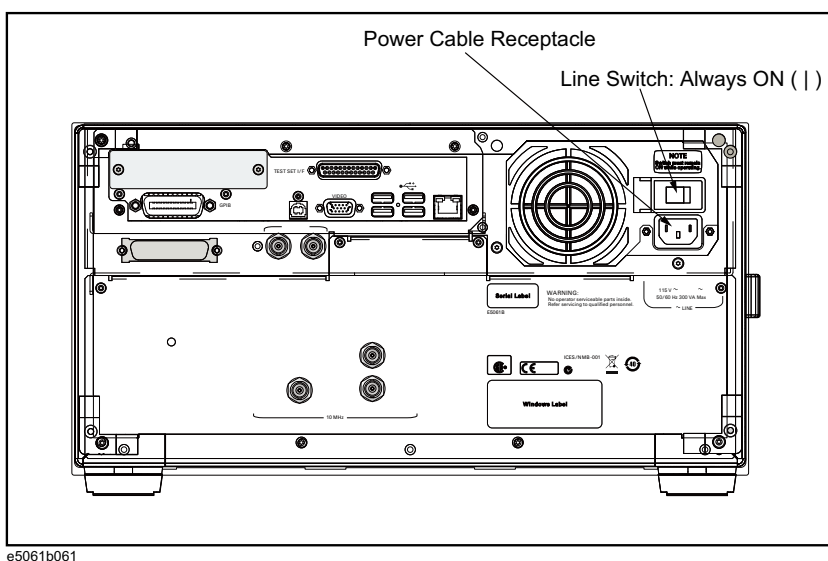

Figure 5 Line switch (Always ON) and power cable receptacle
Step 2. Use the supplied cable to connect between the power cable receptacle (**Figure 5 on page 31**) on the rear panel of the E5061B and a three-wire power outlet with the grounding prong firmly connected in the ground slot.